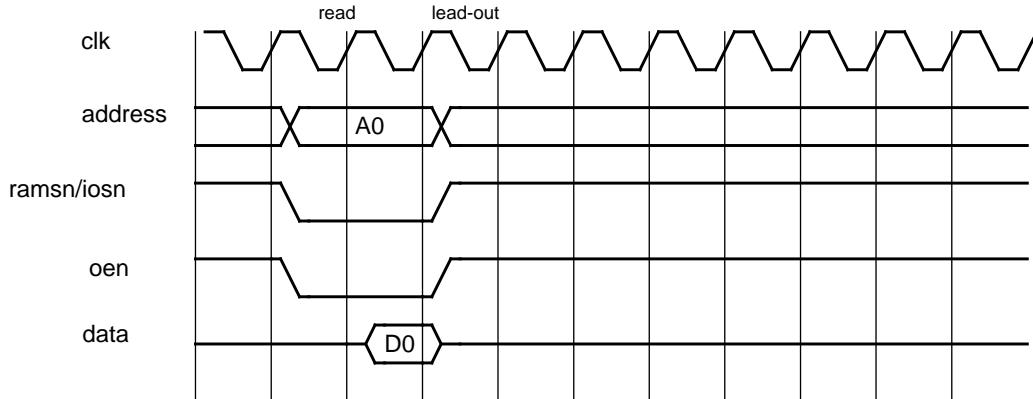
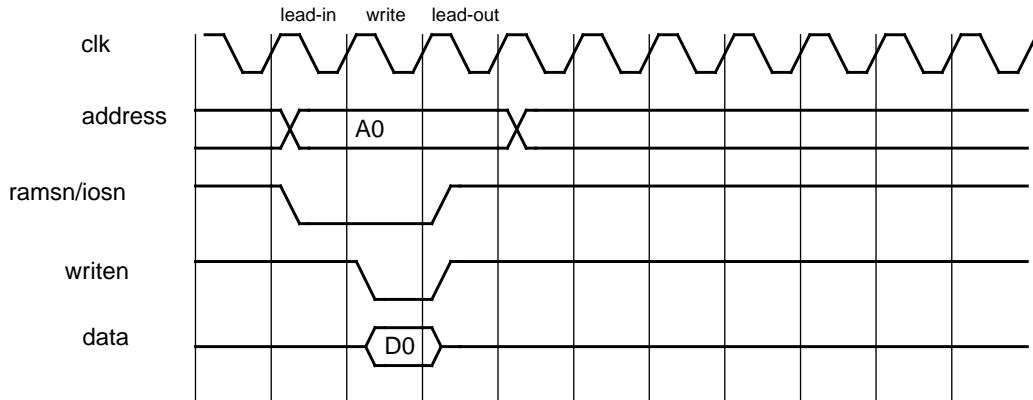

Figure 260. 32-bit PROM/IO read cycle
Figure 261. 32-bit PROM/IO write cycle
For the PROM and I/O operations, a number of waitstates can be inserted to increase the read and write cycle. The number of waitstates can be configured separately for the I/O and PROM address ranges, through a programmable register mapped into the APB address space. After a reset the waitstates for PROM area is set to its maximum (15). Figure 260 and figure 261 show timing diagrams for the PROM read and write accesses.
Read accesses to 32-bit PROM and I/O has the same timing, see figure 260
The write access for 32-bit PROM and I/O can be seen in figure 261